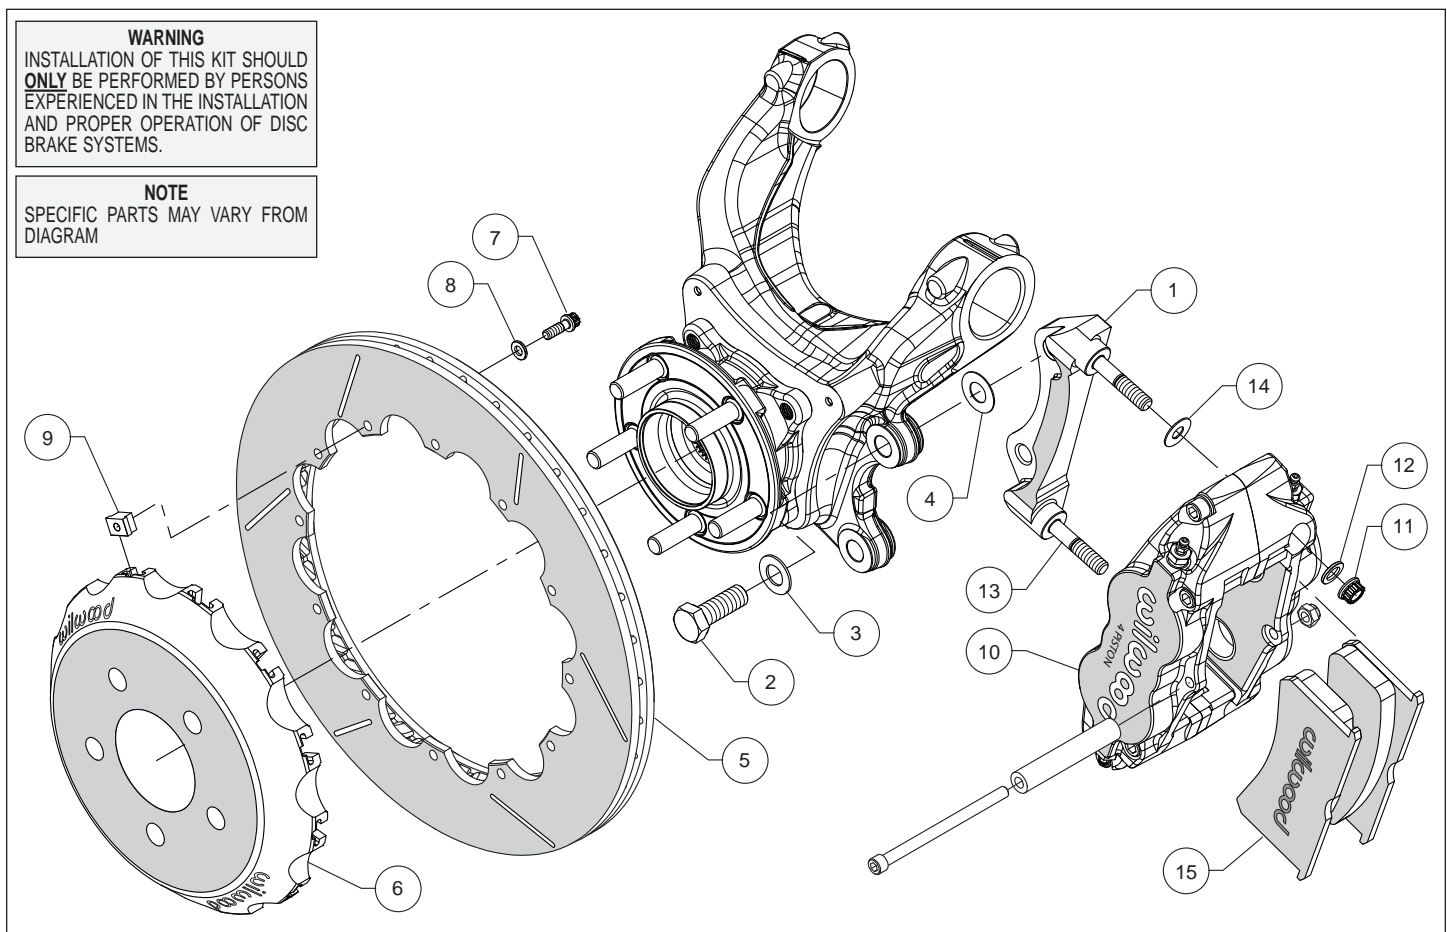
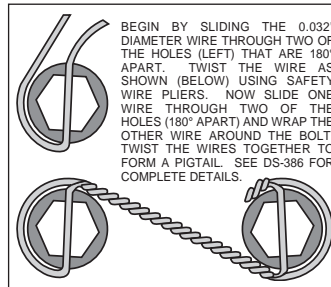

Figure 1. Typical Installation Configuration
Figure 3. Safety Wire Diagram
Assembly Instructions (numbers in parenthesis refer to the parts list and Figure 1 on the preceding pages):
- The caliper mount bracket (1) should initially be installed with clean, dry threads on the mounting bolts. Orient the bracket as shown in Figure 1, and Photo 1, and install using bolts (2) and washers (3). Initially place one .029" thick shim (4) on each bolt between the bracket and upright, Figure 1. Temporarily tighten the mounting bolts. **NOTE:** *The bracket must fit squarely against the mount bosses on the upright.* Inspect for interference from casting irregularities, machining ridges, burrs, etc. Later, after the caliper alignment has been checked, the mount bolts will be secured using red *Loctite*[®] 271.
- Orient the rotor (5) and the hat (6) as shown in Figure 1 and Photo 2. Attach rotor to hat using bolts (7), washers (8), and t-nuts (9). Follow additional instructions included with the bolt kit. Using an alternating sequence, apply red *Loctite*[®] 271 to the threads, and torque to 120 **in-lbs**. Safety wire bolts using standard 0.032 inch diameter stainless steel safety wire as shown in Figure 3. Please refer to Wilwood's data sheet DS-386 (available at www.wilwood.com/Pdf/DataSheets/ds386.pdf) for complete safety wire installation instructions.
- Lubricate the caliper mounting studs (13) with lightweight oil. Initially place one .035" thick shim (14) on each stud as shown in Figure 1 and Photo 3. Mount the caliper (10) onto the bracket (1) using lock nuts (11) and washers (12), Figure 1. Temporarily tighten the lock nuts and view the rotor through the top opening of the caliper. The rotor should be centered in the caliper, Photo 4. If not, adjust by adding or subtracting shims (4) between the bracket and the upright. Once the caliper alignment is correct, remove the bracket mounting bolts one at a time, apply red *Loctite*[®] 271 to the threads, and torque to 77 ft-lbs..